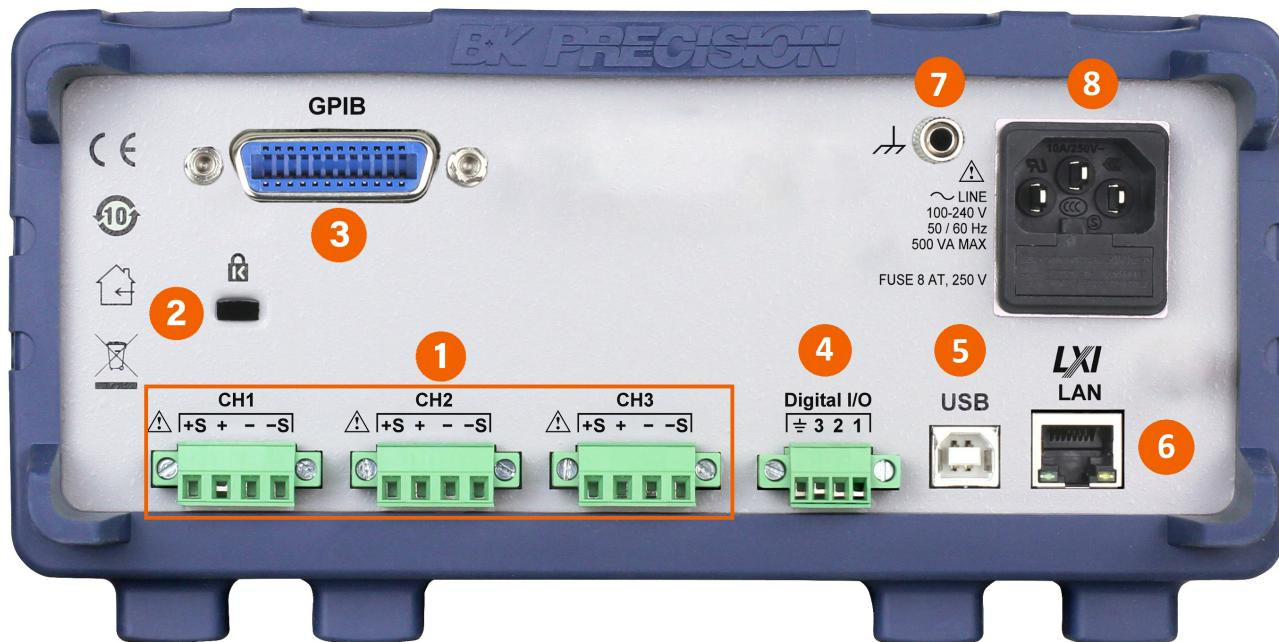

Figure 1.5 Rear Panel
- Locate the fuse box next to the AC input connector in the rear panel. (See figure 1.5)